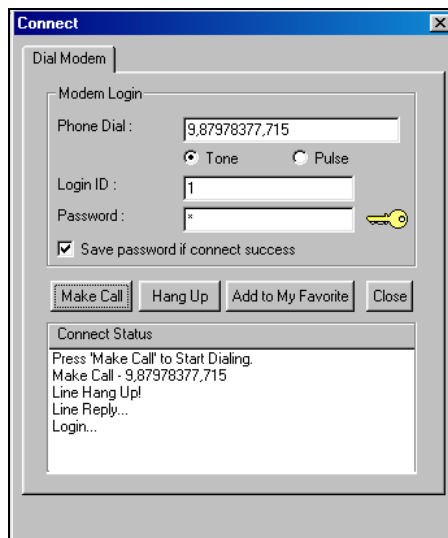

Figure 8-1 Making connection to GV system through dial-up connection.
6. Enter a valid user ID and password, and then click the **Make Call** button. Messages should appear in the Connect Status window when connection successful, shown previous in Figure 8-1.